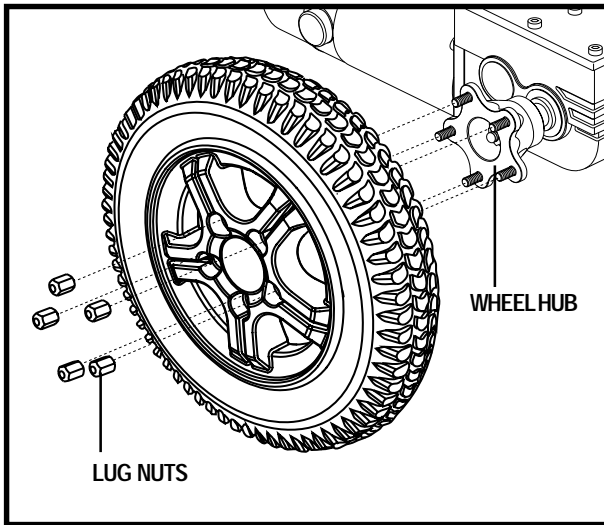

Figure 31. Drive Wheel Removal
4. Remove the five (5) lug nuts from the wheel hub. See figure 31.